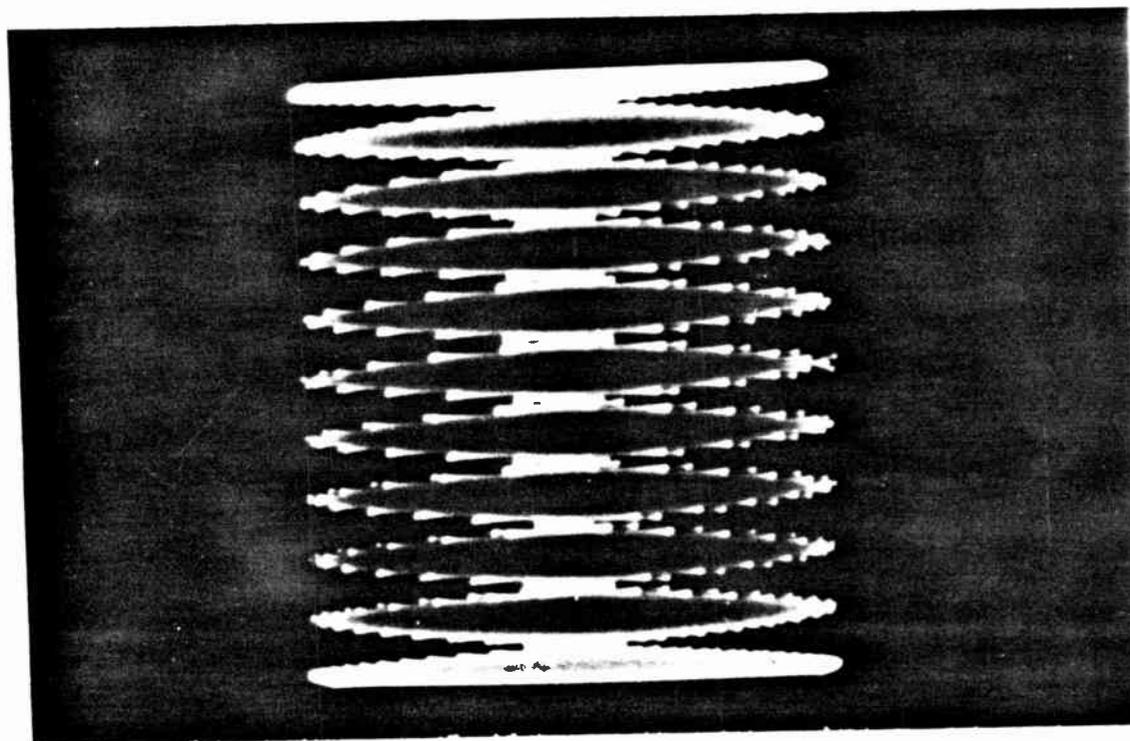

Figure 8-1. Interference Pattern for Zero Calibration at 90°
8-2. In order to calibrate the Phase Angle Selector dial, a scope display is known as the "interference pattern". It is obtained by mixing the two 9960 FM signals and presenting this signal to the horizontal amplifier while applying the 30 cps VAR ϕ signal to the vertical amplifier. By rotating the Phase Angle Selector, the pattern used for calibration is obtained (See figure 8-1). This pattern is found only when the 30 cps on the 9960 FM tone wheel and the 30 cps VAR ϕ signal are out of phase by 90° or 270° . Thus, calibration of the dial is accomplished at the correct point or 180° from the correct point. The ambiguity is eliminated by introducing a known phase of 30 cps AM onto the 9960 FM signal and comparing this with the 30 cps variable phase signal.
17. Turn scope on, rotate PHASE ANGLE SELECTOR knob until picture agrees with that in figure 8-1. (Level of one of 9960 FM signals may have to be adjusted to obtain this.)